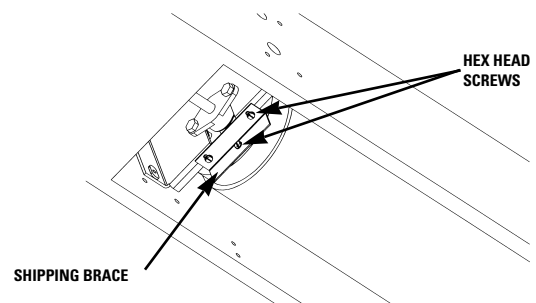

FIGURE 2
5. Remove shipping brace by removing 3 hex head screws. (Fig. 2)